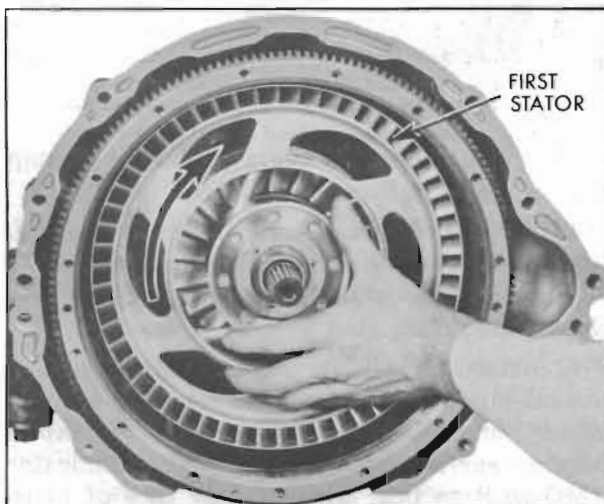

Figure 5-61—Checking First Stator Sprag Clutch
12. Check operation of first stator sprag clutch by sliding the first stator on the reaction shaft with thin edge of blades toward front of transmission. The first stator must turn freely clockwise and lock in a counterclockwise direction when viewed from front of transmission. See Figure 5-61.